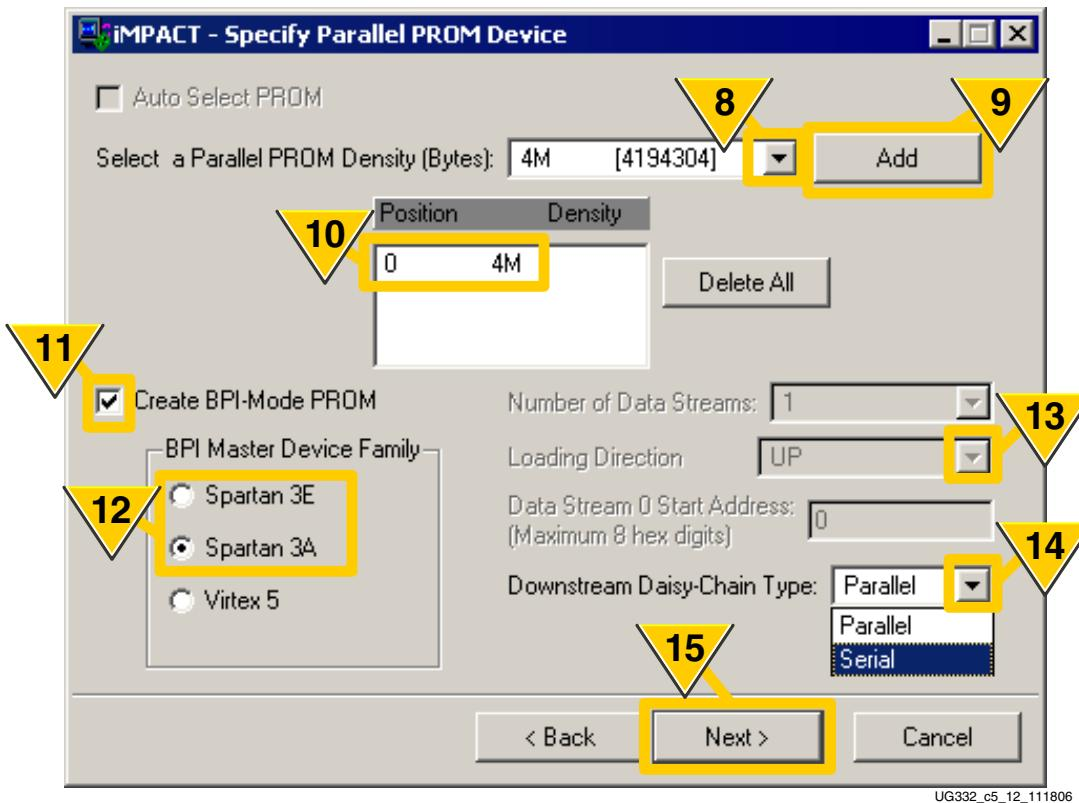

Figure 5-10: Select Parallel PROM Size and Configuration Style
The CCLK output from the master device operates at 8 times the frequency of the Flash read interface and CCLK synchronizes all FPGAs in the daisy chain. The master FPGA accesses the byte-wide Flash once every 8 CCLK cycles but provides serial data on its DOUT output to downstream FPGAs every CCLK cycle. iMPACT programming software automatically adjusts the CCLK frequency when serial daisy chains are selected in Step 14, Figure 5-10, page 165. In standalone BPI mode, the ConfigRate option determines the byte-wide interface frequency. When a BPI daisy chain is selected, the ConfigRate option determines the serial interface frequency, and the parallel Flash interface will run at 1/8 of that rate.
8. As shown in Figure 5-10, select the Parallel PROM Density, measured in bytes. This example uses a 32 Mbit Flash PROM, equivalent to 4 Mbytes.